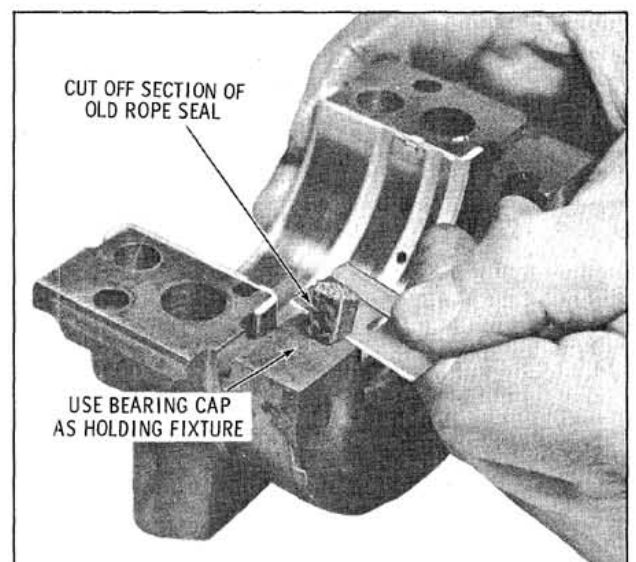

Fig. 3-107 Cutting off Lower Seal Ends
4. Measure the amount the seal was driven up on one side; add 1/16", then cut this length from the old seal removed from the main bearing cap with a single edge razor blade. Measure the amount the seal was driven up on other side. Add 1/16" and cut another length from old seal. Use main bearing cap as a holding fixture when cutting seal as shown in Fig. 3-107.